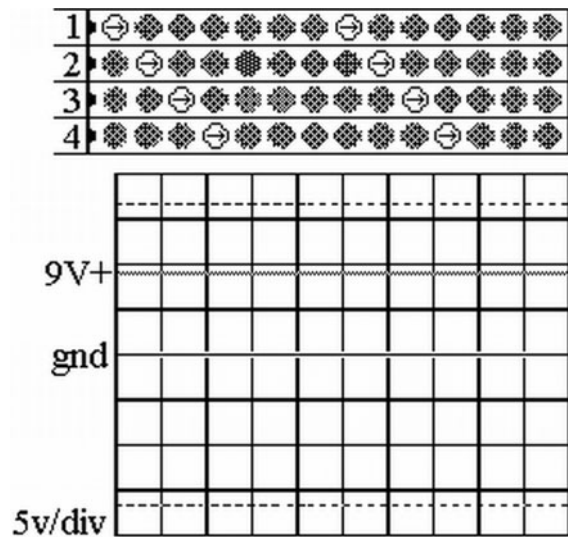
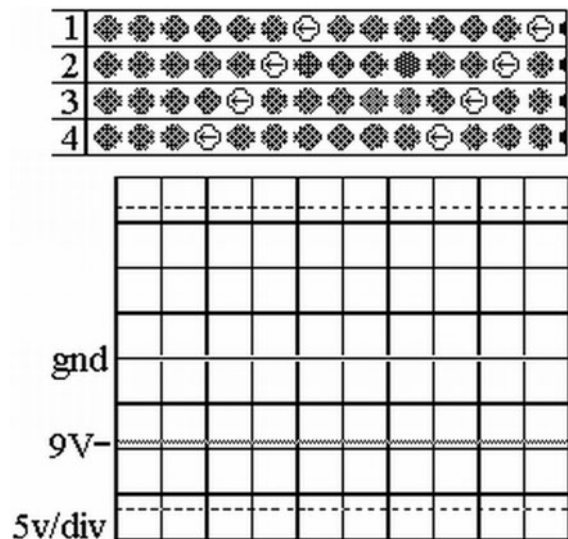

Figure L53-1
Figure L53-2
We always hear the terms *direct current* (DC) and *alternating current* (AC). Direct current means that the current in the system is always flowing in one direction. Electronics depends on direct current. Naturally, flowing water has been a good comparison for positive DC voltage $V+$. Water always flows in one direction—downhill, toward the lowest point. Direct current is easily generated by chemical reactions in batteries. Figure L53-1 shows positive movement of electrons while the scope shows the voltage is above ground. So the voltage pushes the electrons one way. However, what happens when the voltage is reversed and pushes the electrons the “other way”? Figure L53-2 shows us how that really works.